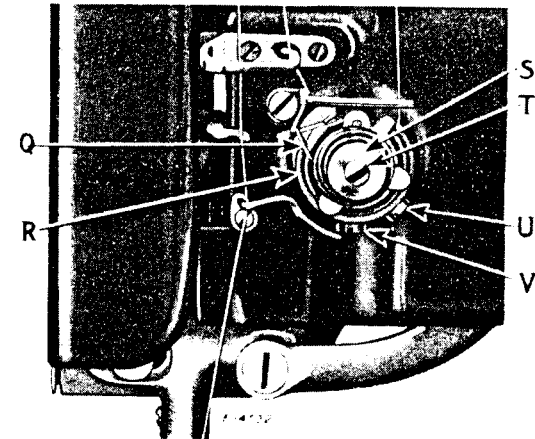

Fig. 17.
THE TENSION ON THE NEEDLE THREAD SHOULD ONLY BE REGULATED WHEN THE PRESSER FOOT IS DOWN. Having lowered the presser foot, turn the thumb nut (S, Fig. 17) at the front of the tension discs over to the right to increase the tension. To decrease the tension, turn this thumb nut over to the left.
The function of the thread controller spring (Q, Fig. 17) is to hold back the slack of the needle thread until the eye of the needle nearly reaches the goods in its descent, as without this controlling action of the spring, the slack thread or silk (more especially silk) will sometimes be penetrated by the point of the needle as the needle is descending.
For more controller action on the thread, loosen the stop screw (U, Fig. 17) and set the stop collar (R) lower. For less action, set the stop collar higher. The position of the controller spring (Q) shown in Fig. 17 is the best average setting for stitching fine fabrics and light leathers.
To strengthen the action of the controller spring on the thread, loosen the tension stud screw (V, Fig. 17), and turn the tension stud (T) slightly to the left with a screwdriver. To lighten the spring action, turn the stud to the right, then tighten the tension stud screw (V).